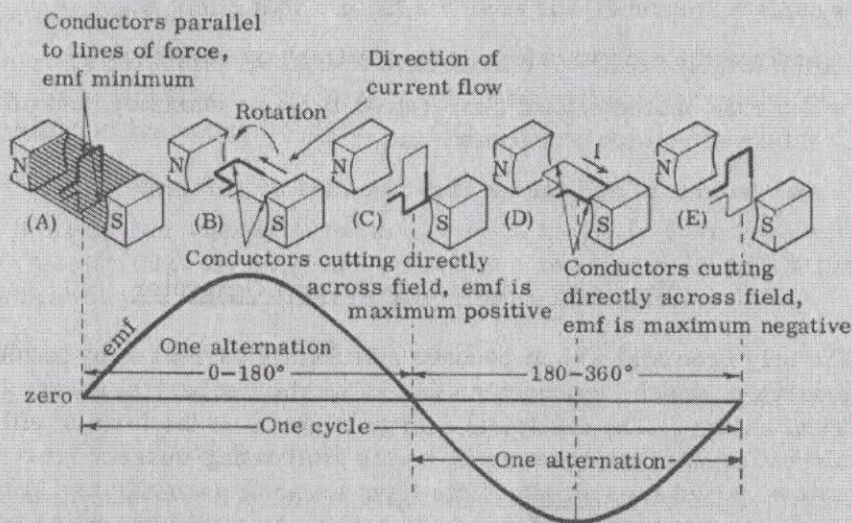

Figure 7-1. Basic alternator.
Refer to Figure 7-1 for Frames 3 through 20.
3. In Figure 7-1, a suspended loop of wire (conductor) is shown as it is rotated in a counterclockwise direction through the magnetic field that exists between the poles of a permanent magnet. For ease of explanation, the _____
loop has been divided into a dark and a light half. In this discussion, consider only the dark half. At position A, the conductor is parallel to the lines of force. It will not begin to cut the lines of force until it moves away from that position. The S-shaped line in the bottom half of Figure 7-1 represents varying values of voltage (emf) induced in the conductor as it rotates through the magnetic field. (This line is called a sine wave, which we will discuss later.) If the conductor is cutting no lines of force, as in position A, what is the value of emf induced in the conductor? _____
8. Remember that the sine wave represents constantly changing values of voltage. The height above the zero line of any point on the sine wave represents the relative value of voltage at that point in the rotation of the conductor, compared with voltages generated at other points. As the conductor cuts more lines of force, the induced voltage increases. Of the positions pictured in Figure 7-1, the conductor cuts the greatest number of lines of force at what positions? _____
12. In Figure 7-1, the induced voltage is zero when the conductor is parallel to the lines of force, as in position A. The instantaneous voltages vary as the conductor rotates, but they are all positive between positions A and C. The current flow changes direction when the conductor reaches position C, so all the instantaneous voltages between positions C and E are (positive/negative) _____.
16. The rotating loop in Figure 7-1 is actually wound on an armature. For simplicity, a single loop is shown, but the armature may have any number of loops or coils wound on it. The armature is moved at a constant speed, because we want the same number of sine waves, or cycles, of voltage to